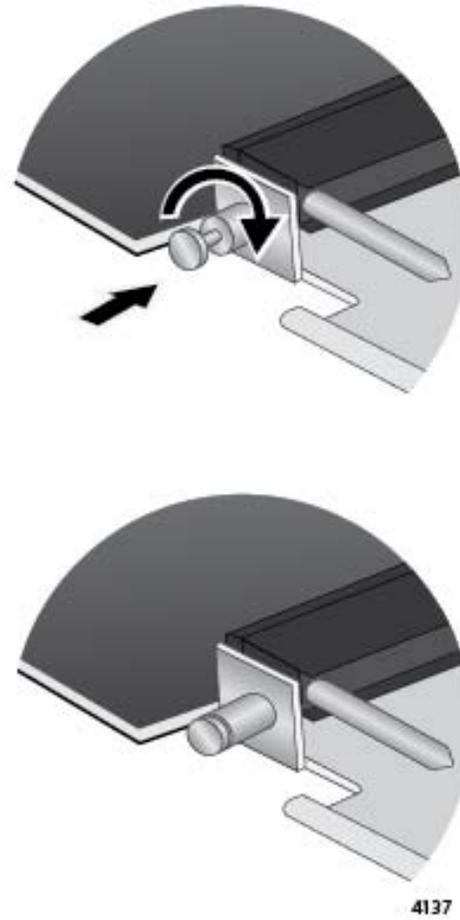

Figure 168. Releasing the Retaining Pin
11. Turn the retaining pin on the side of the card a quarter turn to release it. Refer to Figure 168 on page 260.